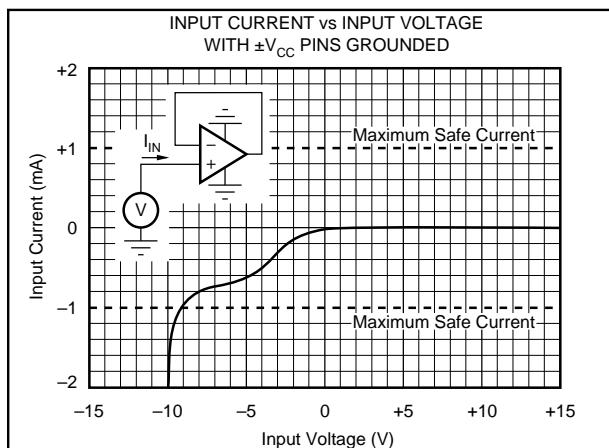

FIGURE 2. Input Current vs Input Voltage with $\pm V_{CC}$ Pins Grounded.
NOTES: (1) Packages must be derated based on $\theta_{JC} = 30^\circ\text{C}/\text{W}$ or $\theta_{JA} = 120^\circ\text{C}/\text{W}$. (2) For supply voltages less than ±18VDC the absolute maximum input voltage is equal to: $18V > V_{IN} > -V_{CC} - 8V$. See Figure 2. (3) Short circuit may be to power supply common only. Rating applies to +25°C ambient. Observe dissipation limit and T_J .
Unlike BIFET amplifiers, the **Difet** OPA404 requires input current limiting resistors only if its input voltage is greater than 8 volts more negative than $-V_{CC}$. A 10kΩ series resistor will limit the input current to a safe value with up to ±15V input levels even if both supply voltages are lost. (See Figure 2 and Absolute Maximum Ratings).